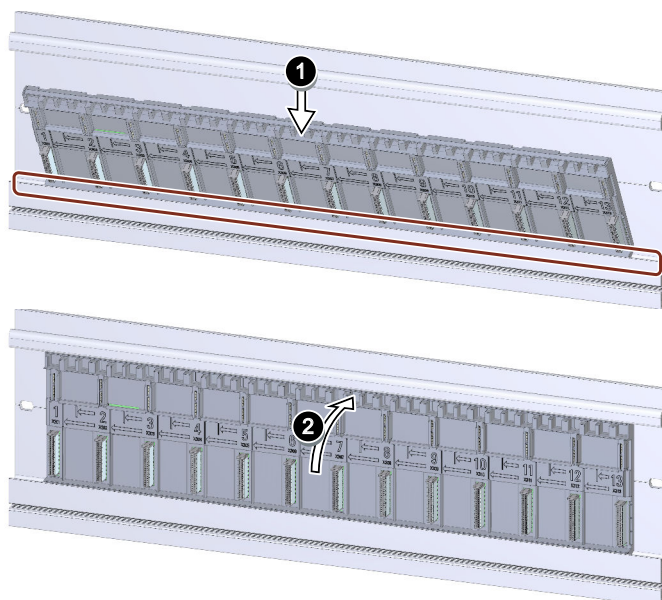

Figure 4-1 Insert the active backplane bus into the mounting rail
- Insertion figure: original page 17, Figure 4-1. Siemens page 4 states that common ST 1+12 illustrations also apply to ST 1+8.